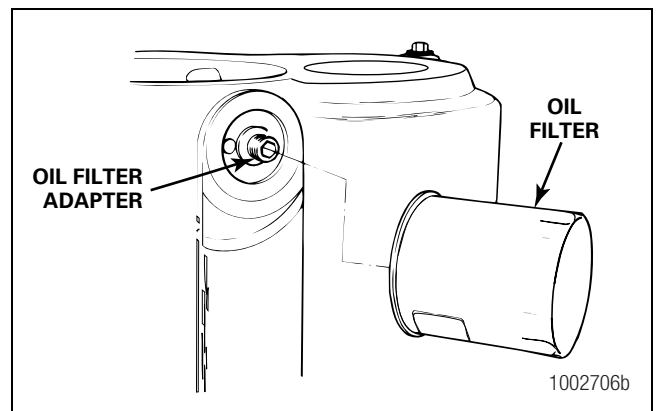

Figure 5.118
- 18. If removed, install the oil filter adapter onto the differential carrier. Use Meritor specification 2297-T-4180 adhesive or equivalent. Refer to Section 4. Tighten the adapter to 40-60 lb-ft (55-80 N•m). Figure 5.118.
- 19. Apply axle lubricant to the gasket of the new oil filter. Install the oil filter onto the adapter. When the gasket on the filter contacts the carrier, tighten the oil filter an additional 3/4 of a turn. If necessary, use an oil filter wrench to tighten the filter. Figure 5.118.